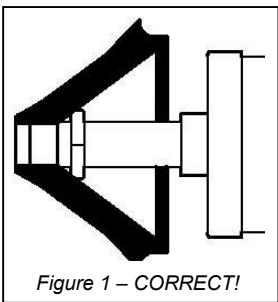
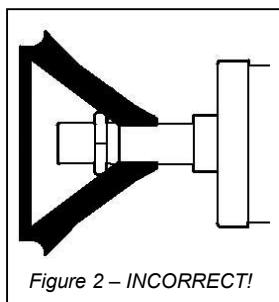
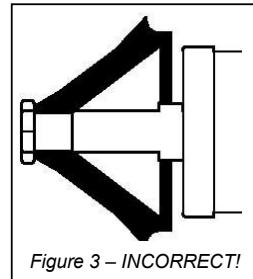

Figure 1 – CORRECT!
Figure 2 – INCORRECT!
Figure 3 – INCORRECT!
1. Thread the 4" Rubber Cone onto the spindle with the point of the cone facing downward as shown in figure 1, not with the point facing the cylinder as shown in figure 2.
3. Use the Lock Nut to hold the cone in place as shown in figure 1, never as shown in figure 3.